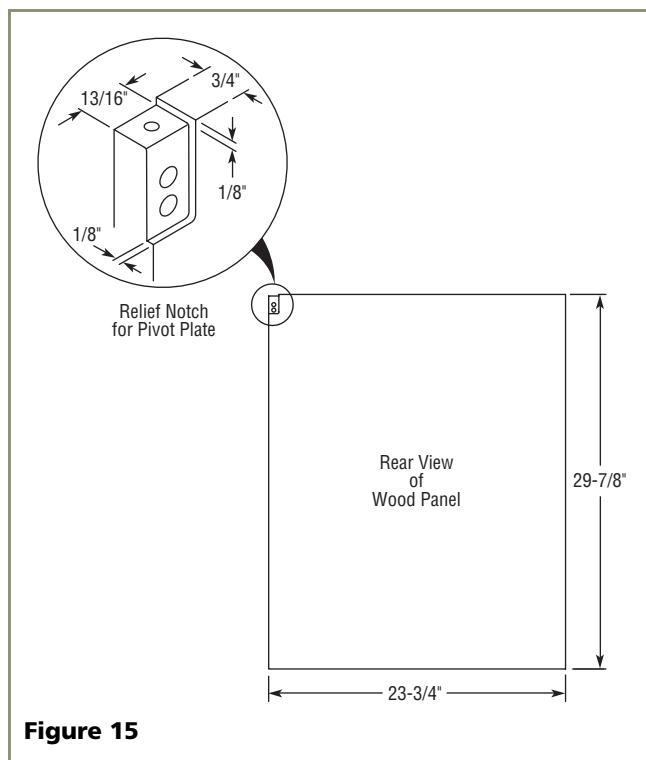

Figure 15
1. Cut the overlay to the following dimensions (see **Figure 15**).
2. Create a relief (**Figure 15**) for pivot plate by cutting notch in top corner and coinciding back corner of overlay panel. Refer to **Figure 16** for exact specifications.